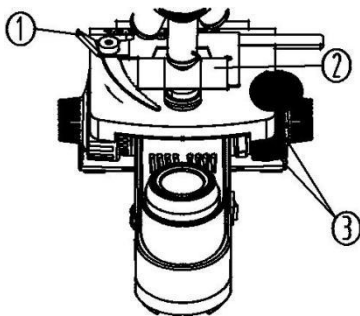

Figure 08
2. Put the cover glass of slice ② upward into the slice holder, lightly open spanner ① easily and clamp the slice. (Figure 08)
4. ③ of the stage to move the specimen to the center position (aligned with the center of the objective lens).